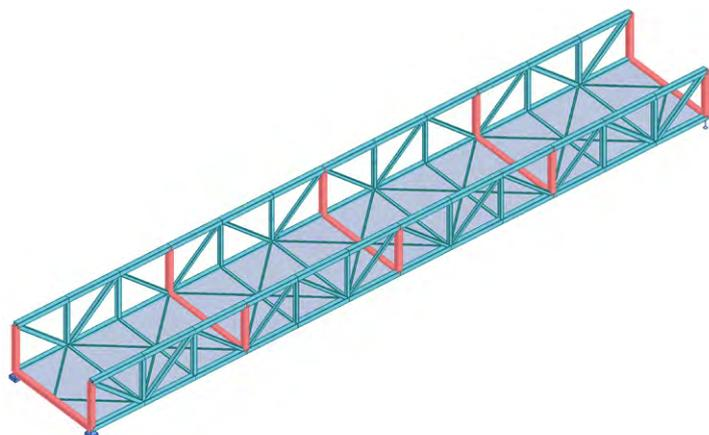

Figure 4: Trussed pedestrian bridge with 20 m span
Consider a 20 m span pedestrian bridge with two 1575 mm deep longitudinal warren trusses with additional vertical members as shown in Figure 4. The trusses are 3 m apart and the verticals spaced at approximately 1.67 m. Five U-frames are provided in the structural solution: 2 end frames and 3 interior equally spaced frames (5 m between U-frames). The axial loads in the chords are estimated as 550 kN at midspan. The design will be based on EN 1993-1-1 section 6.3.2.4 (1) or EN 1993-2 6.3.4.2.